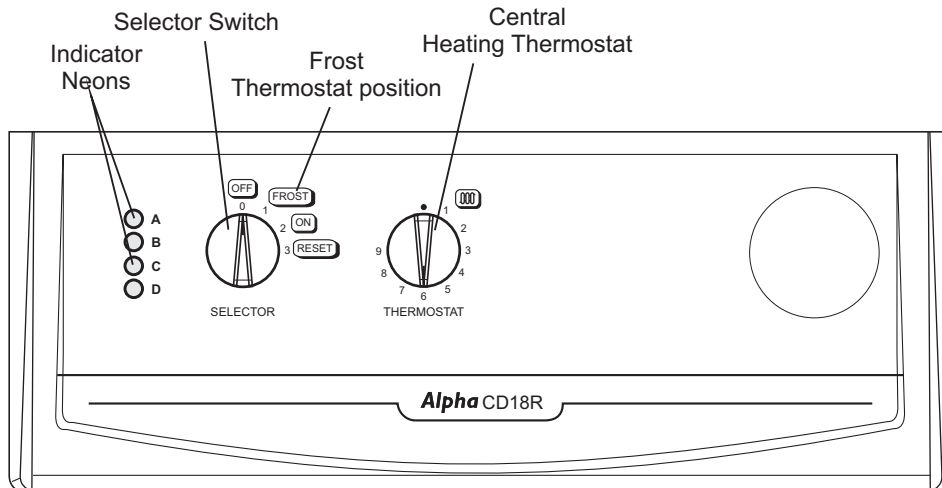

Fig. 5.1
5.2 BOILER CONTROLS - Fig. 5.1
5.4 INITIAL LIGHTING - Refer to Fig. 5.1